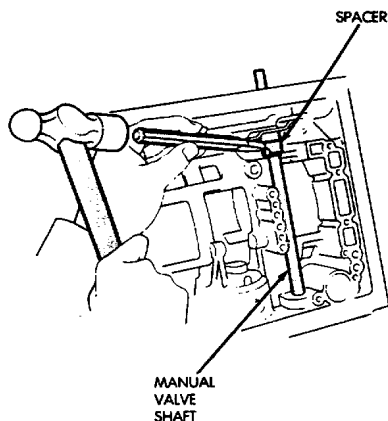

Fig. 22 Cutting Spacer Sleeve
- (5) Cut spacer sleeve with chisel and remove it from manual valve shaft (Fig. 22).
- (6) Remove pin from shaft and sector with pin punch.
- (7) Remove shaft and sector from case.